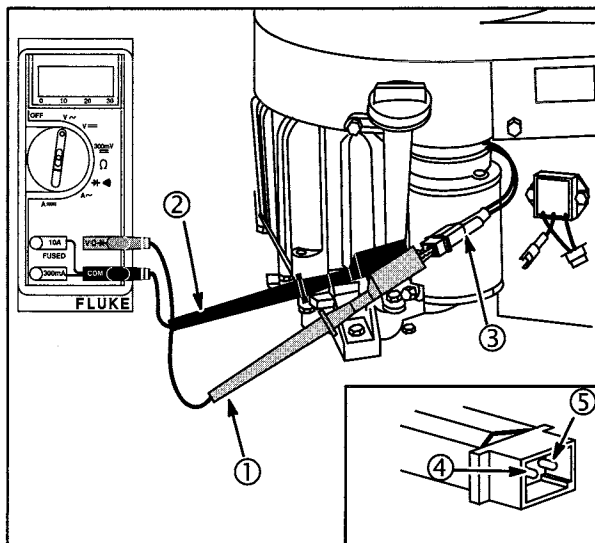

Fig. 27
4. Insert RED (1) and BLACK (2) test lead probes into output terminals (4, 5) in YELLOW connector (3), as shown in Fig. 27. (Test clip leads may be attached to either terminal.)